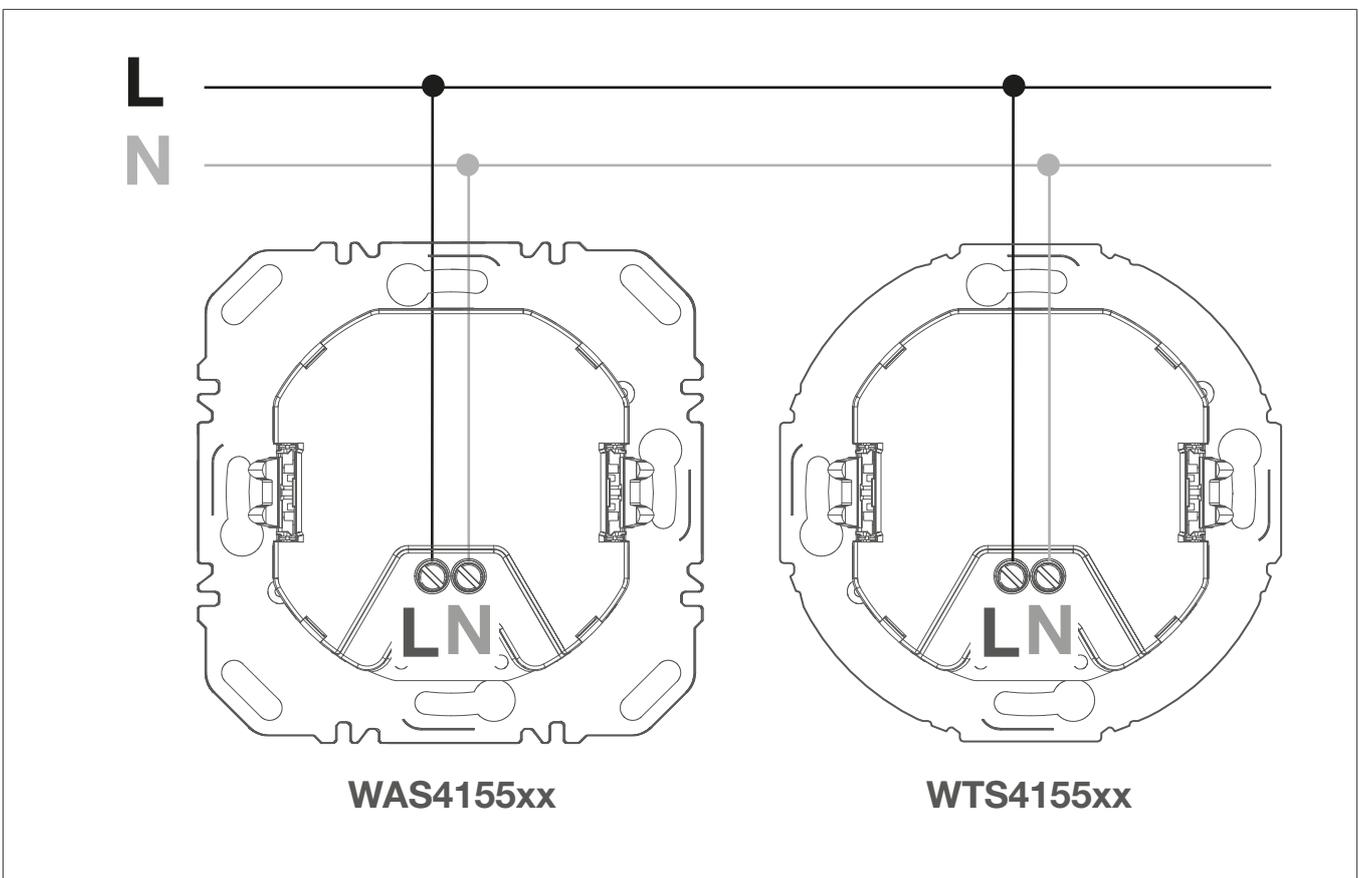

Fig. 2: Wiring diagram
- 1 Connect the device according to the wiring diagram Fig. 2.